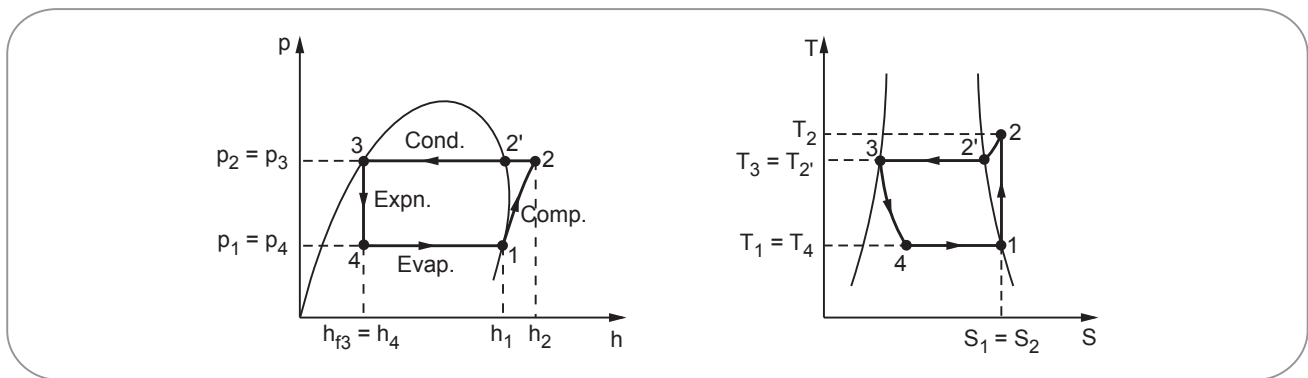

Fig. 5.12 : p-h and T-S diagram for superheated vapour after compression
- In this cycle enthalpy at point 2 can be found out with the help of degree of superheat and by using following relation. (Refer Fig. 5.12)